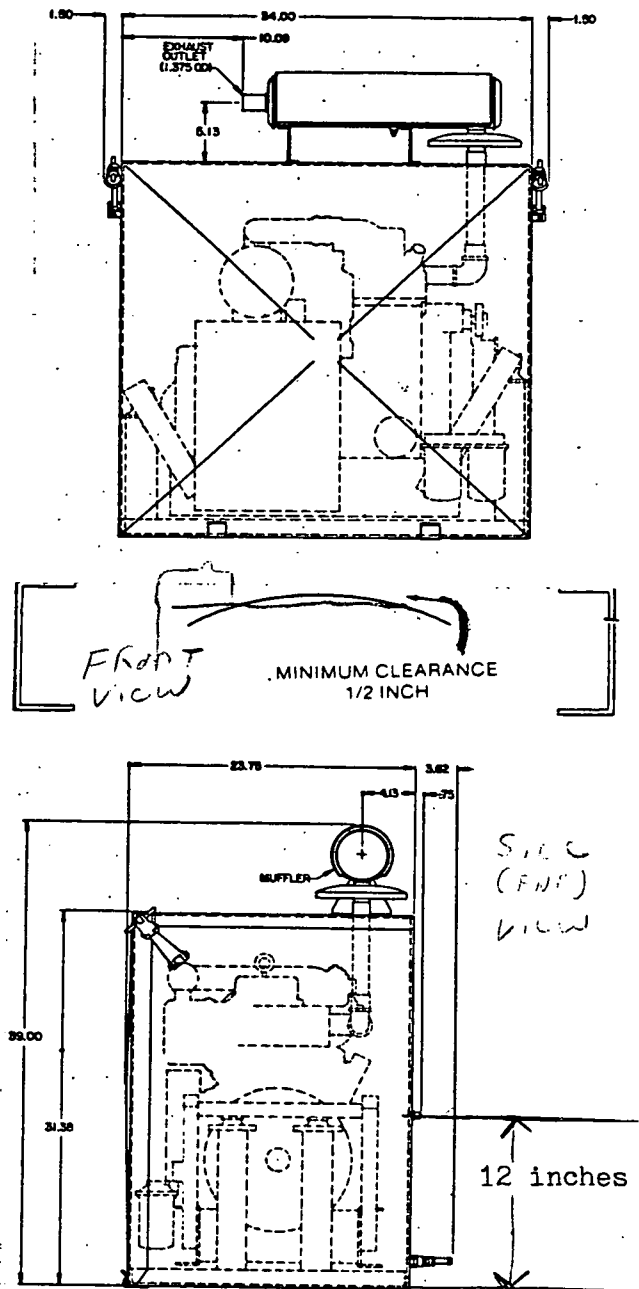

FIGURE 11. Minimum Compartment Installation Dimensions (Over-The-Rail Mounting).
- The physical size (primarily depth) of the generator compartment requires a MINIMUM, UNOBSTRUCTED OPEN SPACE of 23-3/4 inches parallel to (lengthwise) the truck frame rails directly behind the cab. Measure along the frame rails in the desired mounting location to verify this space is available. See Figure 11 for minimum over-all installation dimensions.
- A minimum vertical clearance of 1/2 inch must be maintained between the generator set housing baseplate (where installed over truck frame rails) and any permanent truck chassis component underneath generator set compartment. Spacers should not be used to obtain this clearance. Housing baseplate can be moved horizontally to obtain this clearance as long as minimum space (23-3/4 inches) is NOT reduced. Housing baseplate must rest on truck frame rails when installed as shown in Figure 11.
2. Use an appropriately sized chain or portable hoist with chain inserted through the lifting eye on top of engine to position the generator set "in place" over the truck frame rails in the desired mounting location and check for adequate clearance(over-all compartment dimensions are shown in Figure 11).